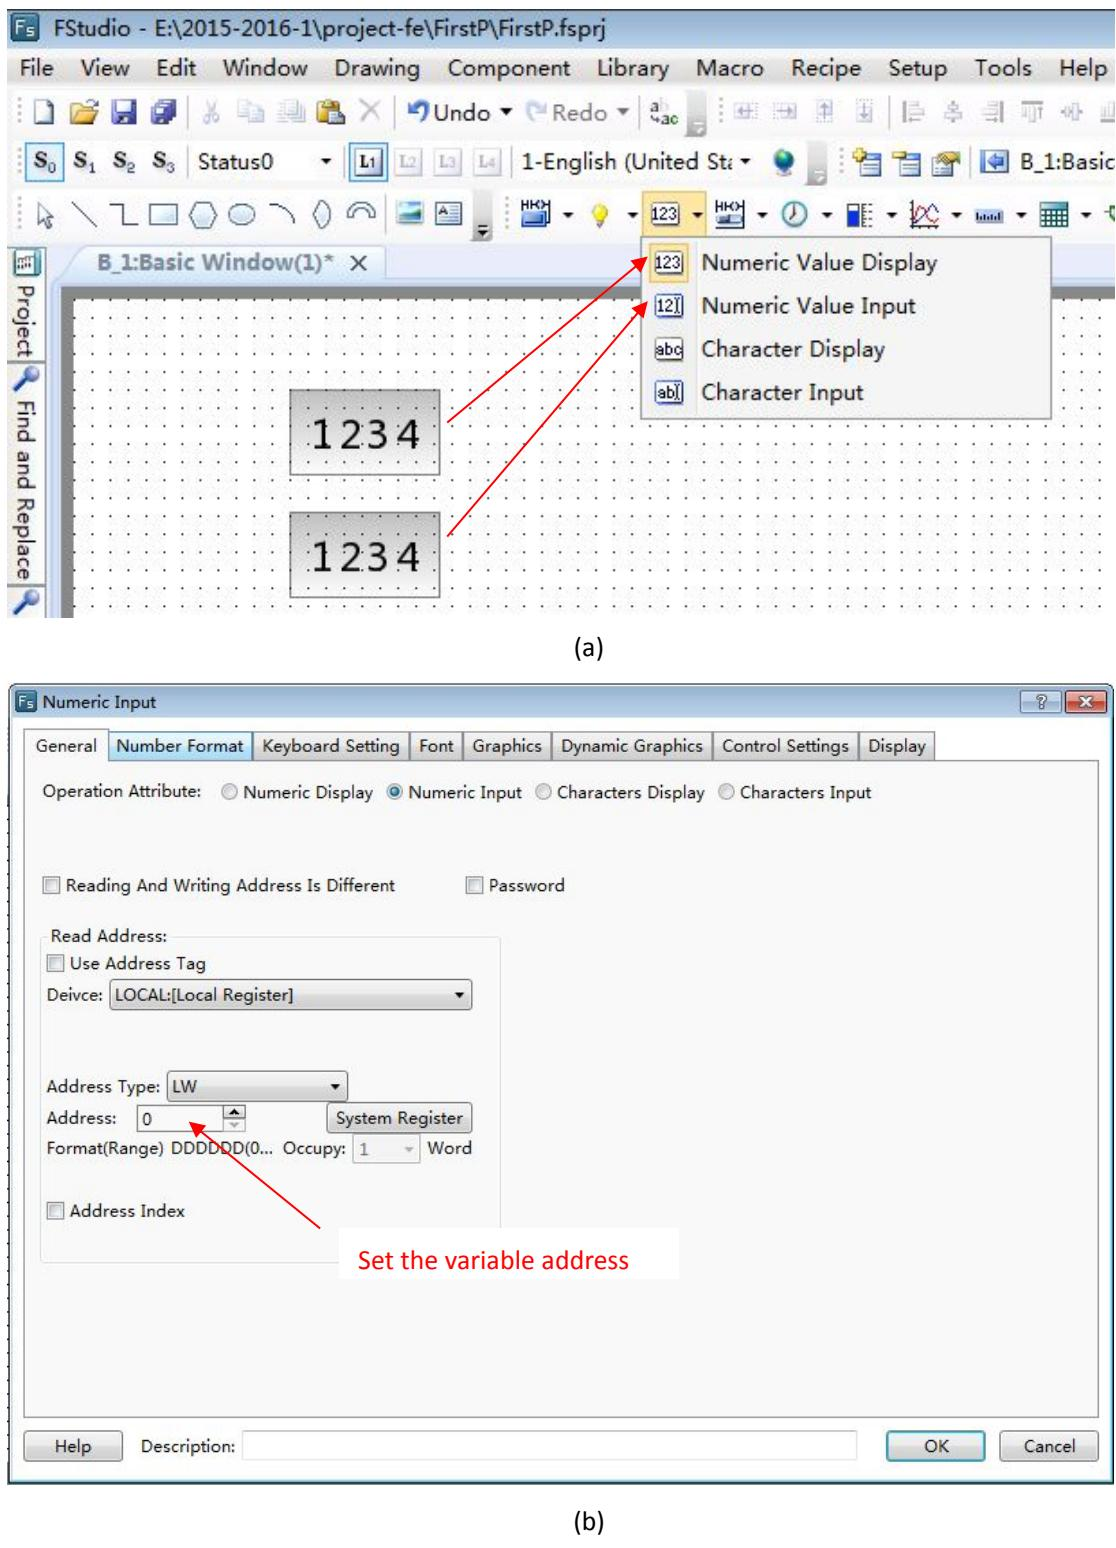

Fig. 14
(6) Add an “Input” variable and a “Display” variable into the picture and set the properties, as shown in Fig. 14.